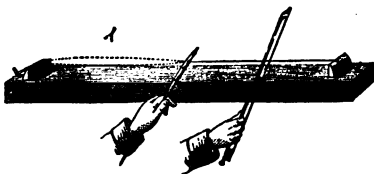
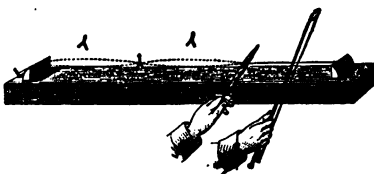

FIG. 135
FIG. 136
**173. Vibration of Strings in Segments.** If we pluck the wire in the above *sonometer* at its middle point, the whole wire will vibrate and give off a note called its *fundamental*. If, however, we touch the middle to prevent that part vibrating, and bow the wire one-fourth from the end, it will vibrate in halves (Fig. 135), the right half going up while the left goes down. The middle point is at rest and remains so even after the finger is removed. This point of no vibration is called a *node*. The number of vibrations of each half of the wire will be twice as great as before, as evidenced by the pitch, which is the octave of the fundamental note. This note is called the first *overtone*. By damping the wire one-third way from the end (Fig. 136) and drawing a bow across the wire one-sixth way, the wire will vibrate in thirds, giving us the second overtone.